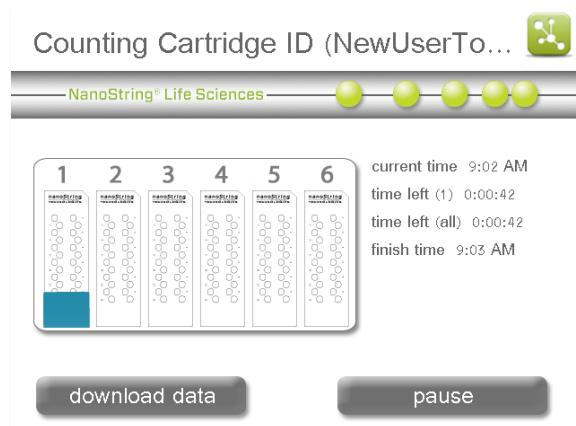
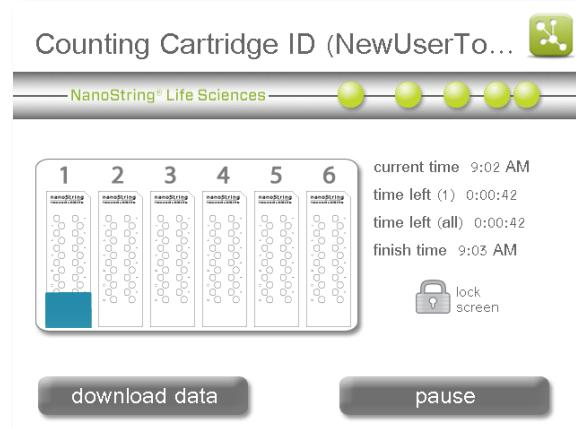

Figure 90: The ‘Counting Cartridge ID’ screen with information on the run in progress.
Figure 92: The 'Counting Cartridge ID' screen when it is unlocked, with the **lock screen** button visible.
The ‘Counting Cartridge ID’ screen will appear (**Figure 90**). Once imaging has begun, the door will remain locked until the system is paused or the run is complete.
Press the light grey **unlock** button to log in. The screen will lighten (**Figure 92**), and the user will be able to download data (while the run continues) or pause the run.
1. On the ‘Counting Cartridge ID’ screen (**Figure 90** or **Figure 92**), press **pause**.
1. In the ‘Counting Cartridge ID’ screen (**Figure 90** or **Figure 92**), press **pause**.
1. On the ‘Counting Cartridge ID’ screen (**Figure 90** or **Figure 92**) press **pause**.